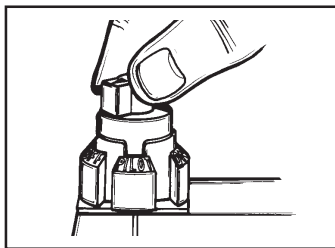

FIGURE 25.
14. With the thermostat knob in the "OFF" position, turn the gas on. Check for leaks with a soapy solution. If leaks are found, turn the gas off immediately and correct. Do not test gas leaks with a match or flame. Read lighting instructions on page 18. Do not light the water heater until it is completely filled with water, see Figure 25.